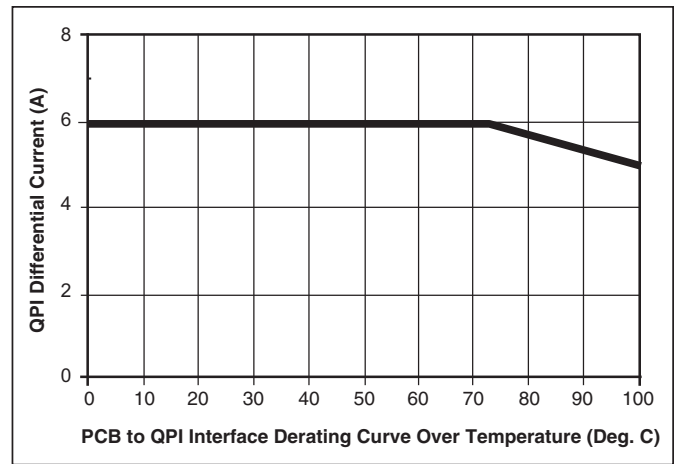

Figure 5 – QPI-8 current derating curve over temperature.
- -40° to +100°C PCB temperature (see Figure 5)
**Note 3:** Refer to Figure 5 for current derating curve.
The QPI-8 6 Amp rating provides filtering for up to 288 Watts of power from a 48 V bus with a 70°C PCB temperature. It is well suited for the 200 Watt per board limit in the PICMG® 3.0. The 25 x 25 x 4.5 mm surface mount LGA package provides ease of manufacturing by eliminating through-hole assembly. The current derating curve shown in Figure 5 should be used when the PCB temperature that the QPI-8 is mounted to exceeds 70°C.